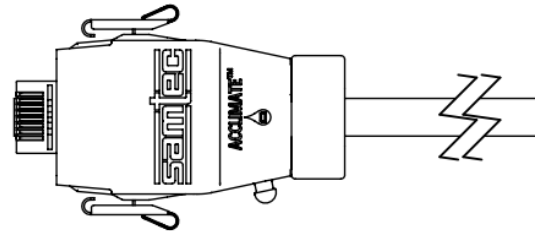

Figure 2 - Waterproof connector
- ☐ See **Figures 2 and 3** for assembly.